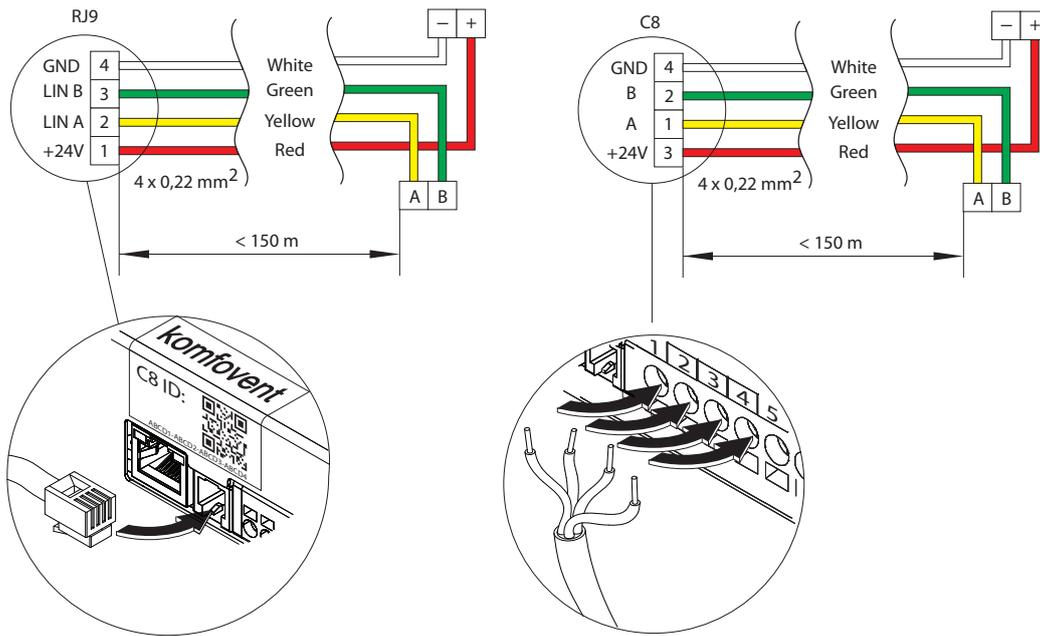

Fig. 14. Control panel cable wiring diagram
- Control panel (see. Fig. 14)
- **Outputs TG1 (6-8)** – Power supply and control signal for a water mixing valve actuator of the external heat exchanger or direct evaporation (DX) cooler/heater. Depending on the “External coil” type selected in the settings (see “Domekt User Guide”), the valve actuator will be controlled by a heating or cooling signal.
Control panel cable is connected to the C8 main board as shown in Fig. 14. If needed, the panel cable can be also connected to an external RJ10 connector.